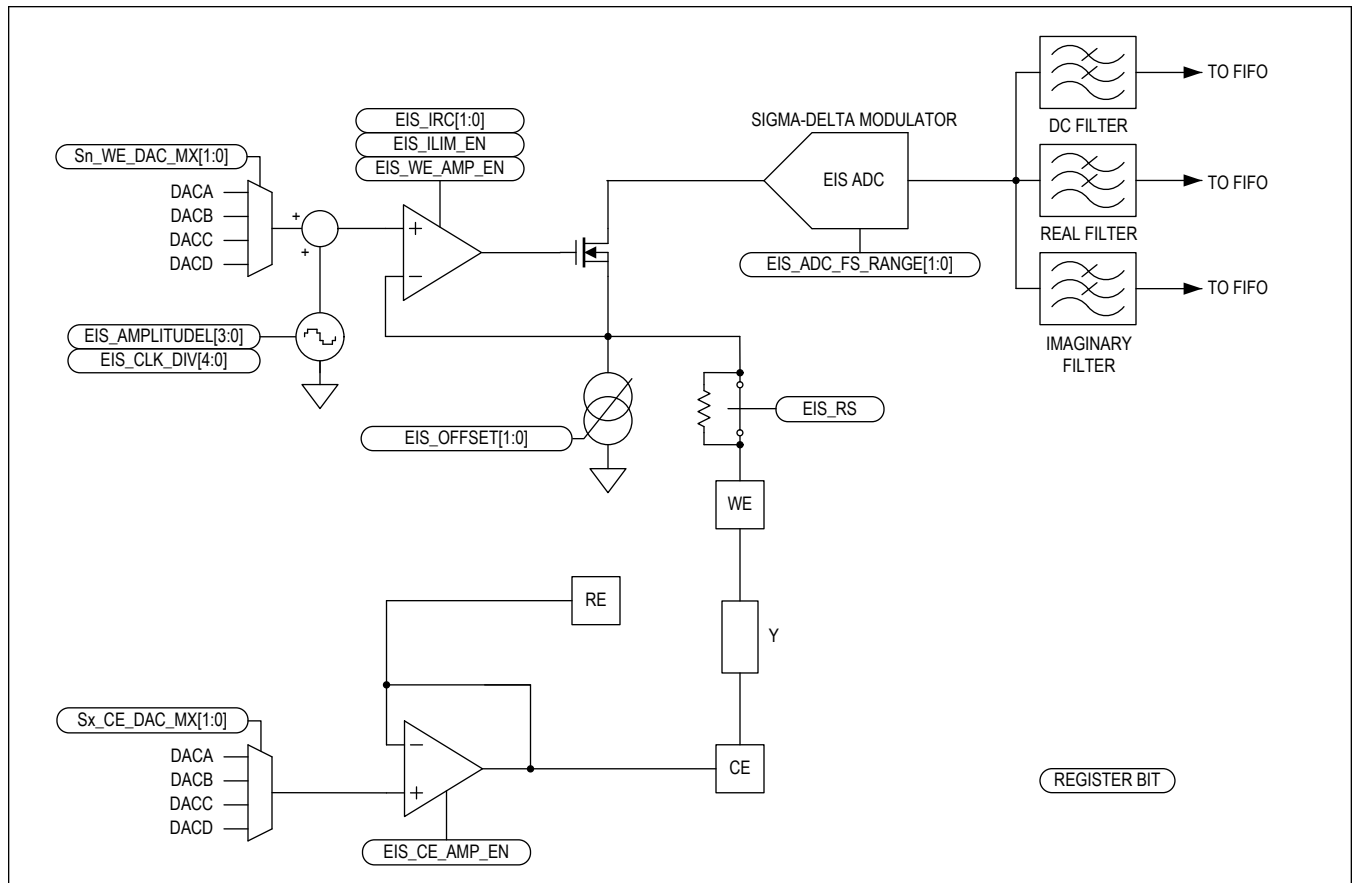

Figure 13. Simplified EIS Measurement Setup
In EIS mode, a sinusoid is superimposed on the DC voltage of either the working electrode (WE) or counter electrode (CE) while the working electrode current is measured. Figure 13 demonstrates a simplified EIS measurement setup. DC + AC voltage is applied to WE while CE is at virtual ground. Since the current is measured at the drain of the nMOS transistor, the voltage of WE can be driven. The output current feeds a sigma-delta modulator that is filtered in the digital domain, creating a sequence of ADC codes. A digital correlator extracts the In-phase (I) and Quadrature-phase (Q) components at the same time. When driving the counter electrode (CE) the measurement current is inverted compared to driving from the working electrode (WE) resulting in a 180-degree phase change, which must be accounted for. Since voltage is driven and current is measured, admittance rather than impedance is measured, but they are simply complex-number inverses of each other. The I code is proportional to conductance and the Q code to susceptance. Phase and Admittance is calculated directly from these I and Q codes.